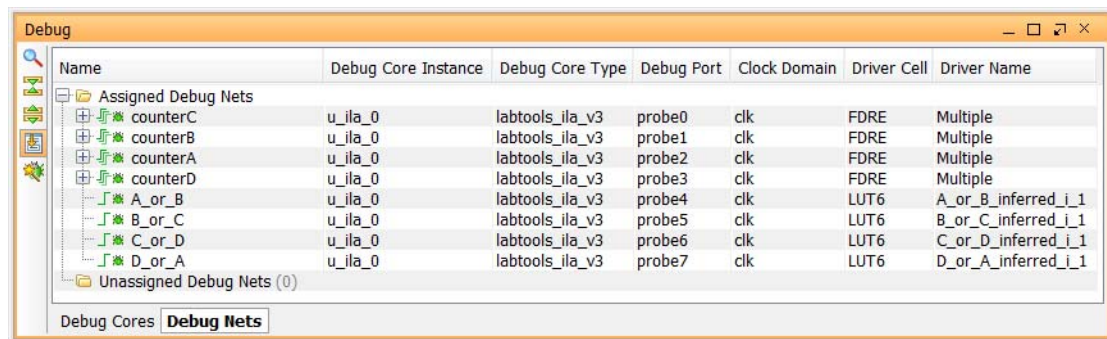

Figure 4-3: Assigned Debug Nets
9. The debug nets are now assigned to the ILA debug core, as shown in Figure 4-3.